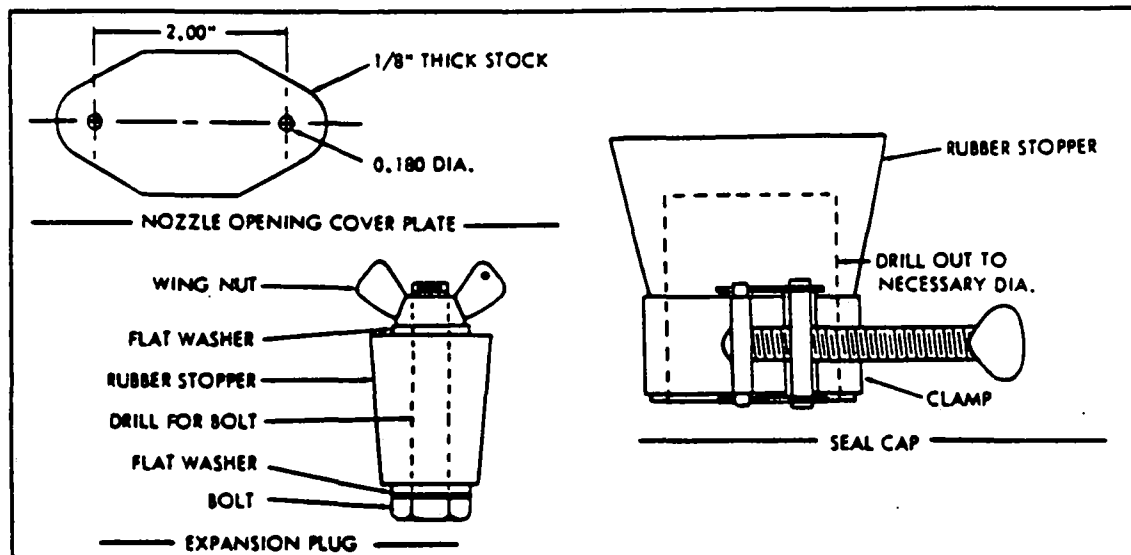

Figure 13-23. Suggested Design for Seal Plate, Plugs and Caps for Combustion Tube Leakage Test
b. Test the combustion tube assembly (86) for leaks as follows:
1. Fashion a sealing plate from approximately 1/8 inch thick flat stock to seal the nozzle holder opening in the combustion tube assembly. (Refer to Figure 13-23.) Use a rubber gasket under the plate and attach the plate with two screws.
2. Make up seals for all remaining openings, except the one used to connect the air pressure source. (Refer to Figure 13-23.) Use rubber stoppers as shown. The combustion air inlet tube can be sealed best with a drilled stopper and clamp. Other openings should be sealed with expansion plugs. The seal used in the exhaust tube should be formed so that it will not deform the air pressure switch tube which protrudes into the exhaust.